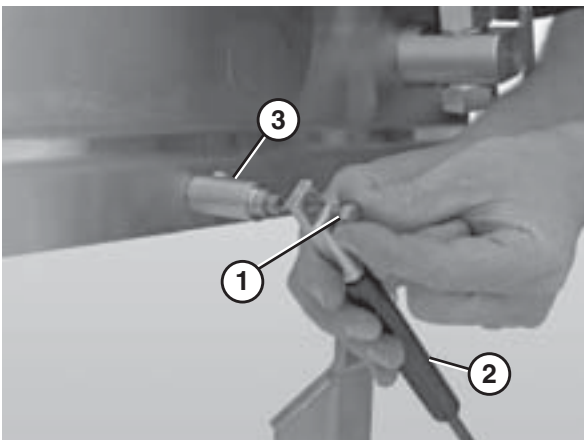

Figure 92
3. Remove the hex bolt (Figure 92, item 1) that connects the gas spring (Figure 92, item 2) to the gas spring standoff post (Figure 92, item 3).
4. Remove the inside hex bolt that connects the standoff post (Figure 92, item 3) to the frame.